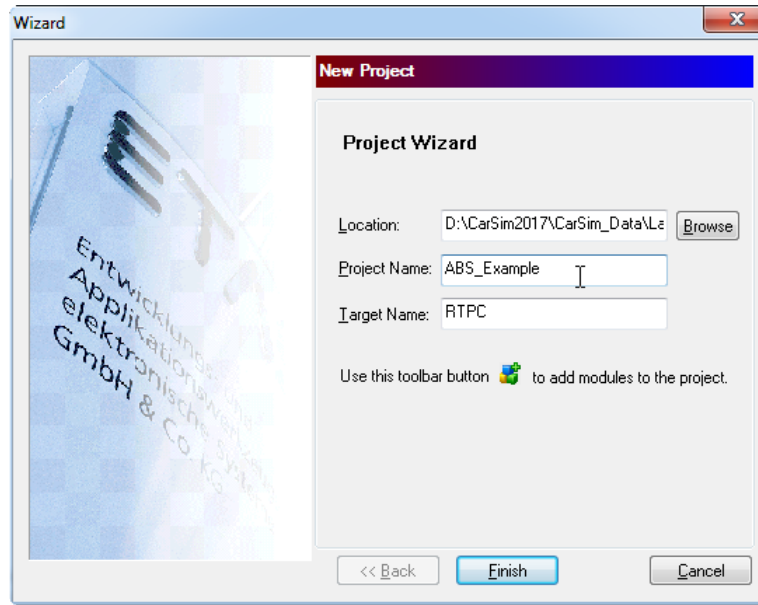
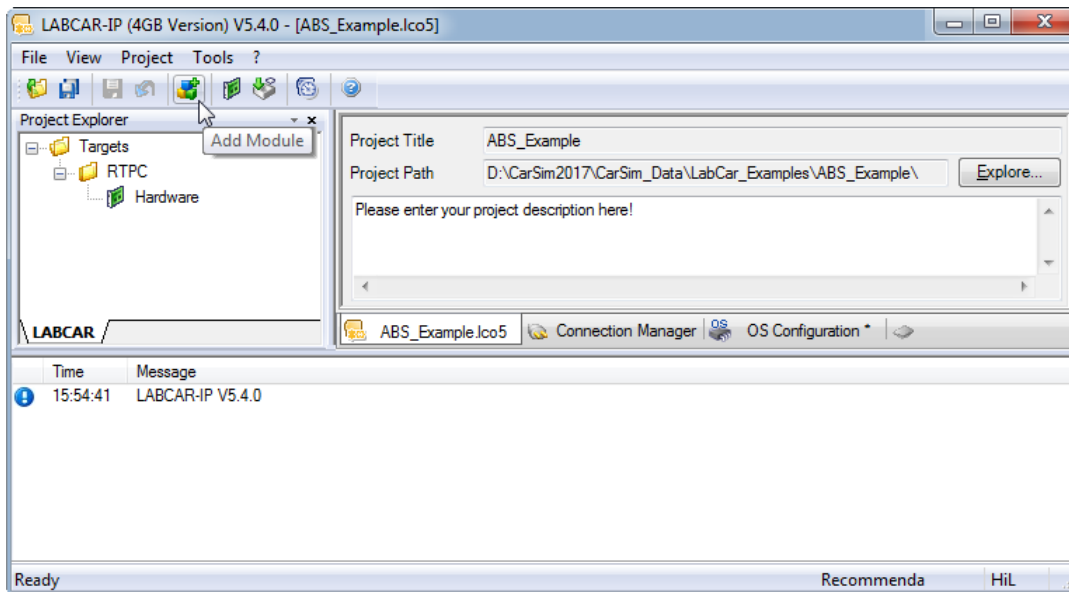
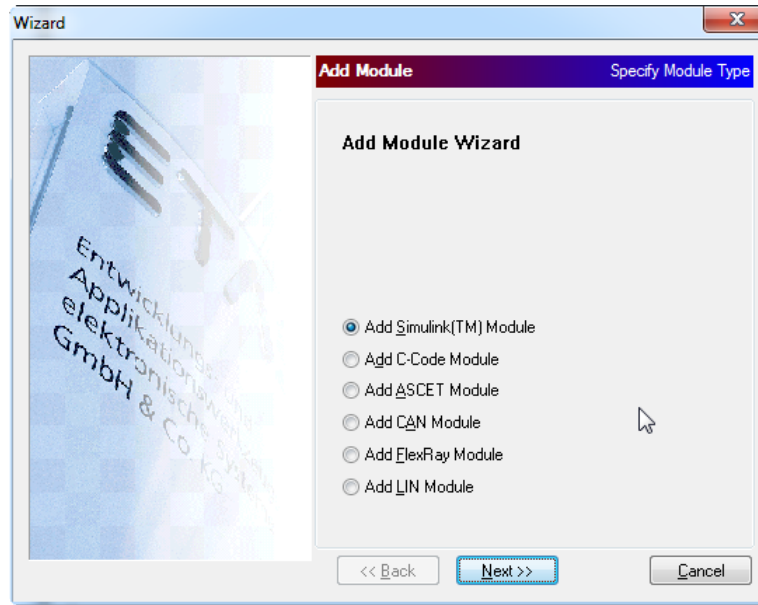
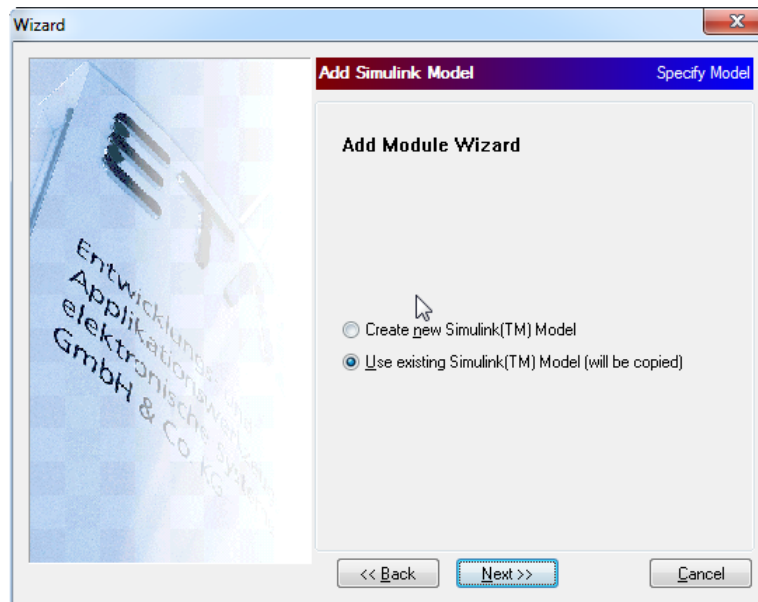

Figure 8. Select project location and name.
Figure 9. LabCar-IP project main window
Figure 10. Select add Simulink module.
Figure 11. Select use existing Simulink Model.
2. Select a project location. For this example, {CarSim Data folder}\ETAS\_Examples\ is selected as a project location. Type a project name, e.g. ABS\_Example (Figure 8). Click **Finish** and open the LabCar-IP main window, Figure 9.
3. Click **Add Module** icon (Figure 9). The Add Module Wizard pops up (Figure 10). Select **Add Simulink (TM) Module** and click **Next**. Select **Use existing Simulink model** (Figure 11). The ABS Simulink model is in this folder: